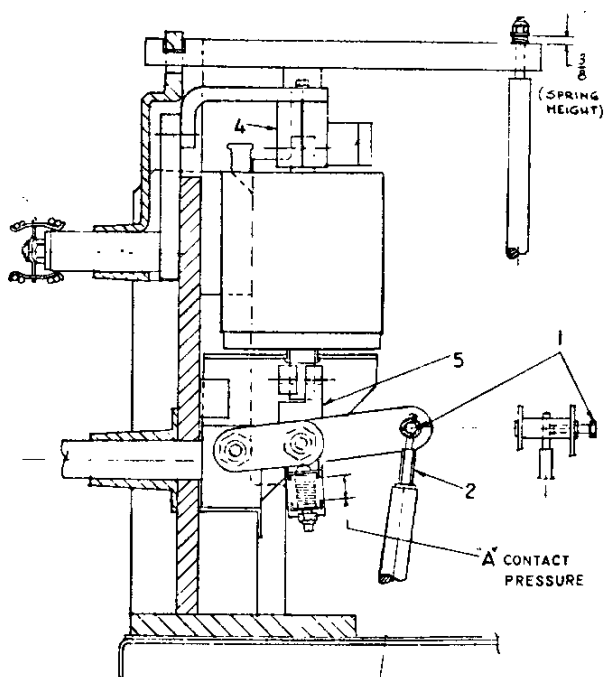

Fig. 5
On circuit breakers with normal or less than normal loadings, the listed values may be exceeded up to 150%. If the millivolt drop exceeds 150% of the listed values, check the millivolt drop across the vacuum interrupter. A millivolt drop across each vacuum interrupter above 3.5 (17.5 micro-ohms), measured between points 4 & 5 of Fig. 5, indicates that an adjustment in contact pressure is required or that heavy contact erosion has occurred. The adjustment procedure for contact pressure is given later in this section.
CONTACT PRESSURE AND ADJUSTMENT (See Fig. 5)
3. See Fig. 5. Measure and record dim. "A" of the three poles with the breaker open. With the breaker closed, measure and record dim. "A". The DIFFERENCE between the two readings should be 7/64 to 3/16 inches.
CONTACT SUPPORT BRACKET ADJUSTMENT (See Fig. 5) (High Momentary 15HKV500 and 15HKV750 Breakers)